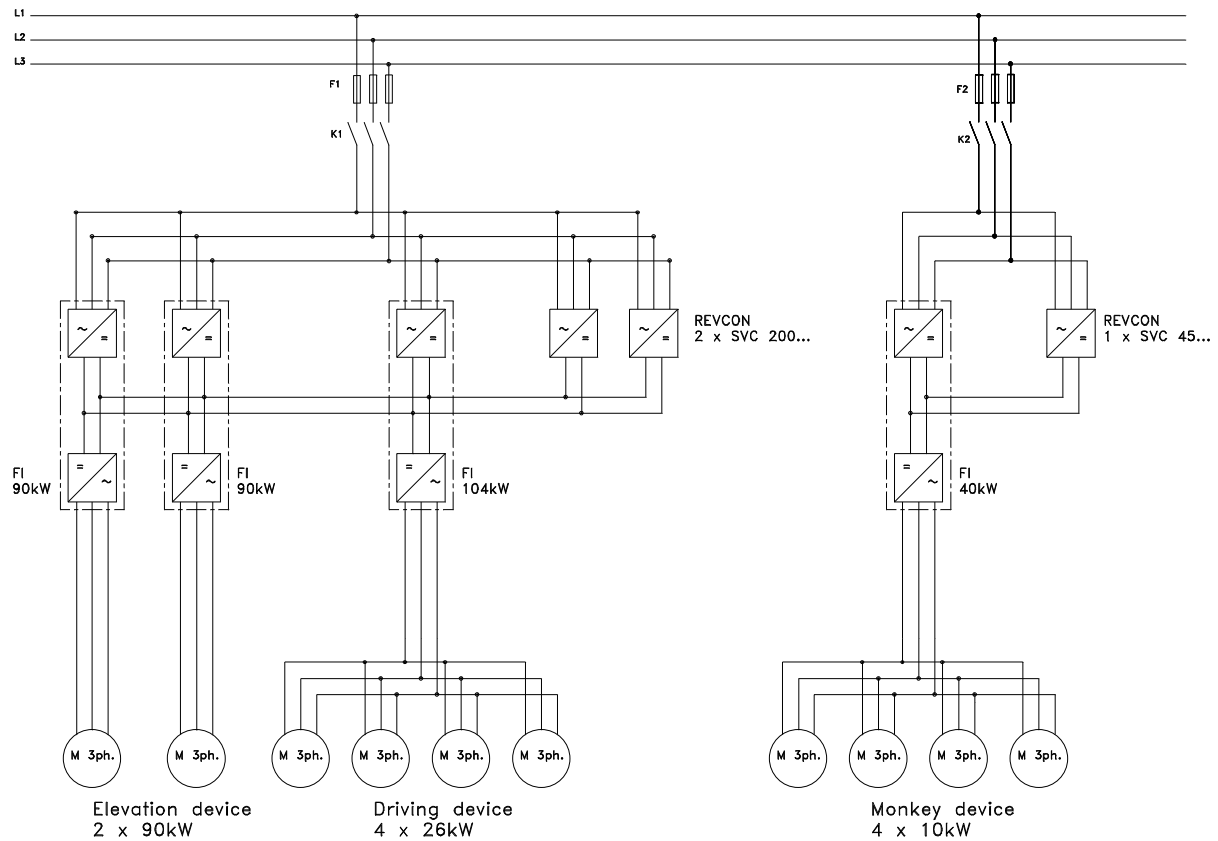

figure 4.5.1
7. At these terminals one ore more controllers (even with different power ratings) may be attached, like it shown in figure 4.5.1. Even if several controllers are attached, the wires have to be as **short and low impedance** as possible!
Within greater plants several power feedback units may be coupled. Figure 4.5.1 shows an example of a windage plant with some possible combinations. The operation of several inverters at one common DC-bus allows to reduce the amount of power feedback units. On the other hand several power feedback units may be coupled to transmit more power. It's also possible to drive several motors at one inverter, as they react, seen from the DC-bus (and that's, what the power feedback unit sees), like one big motor.